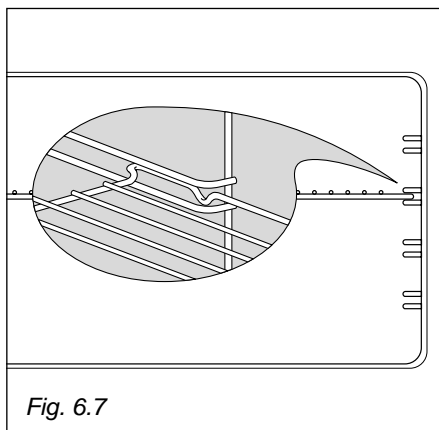

Fig. 6.7
- Slide in, on the guides, the shelves (fig. 6.7).